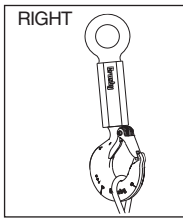
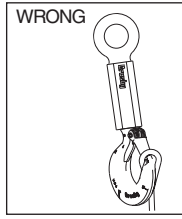

Figure 3
Figure 4
- When placing two (2) sling legs in hook, make sure the angle between the legs is less than 90° and if the hook or load is tilted, nothing bears against the bottom of this latch (See Figures 3 & 4).
- Always make sure the hook supports the load. (See Figure 3 on page 156). The latch must never support the load (See Figure 4 on page 156).
- When placing two (2) sling legs in hooks, make sure the angle between the legs is less than 90° and if the hook or load is tilted, nothing bears against the bottom of this latch. (See Figures 3 & 4)